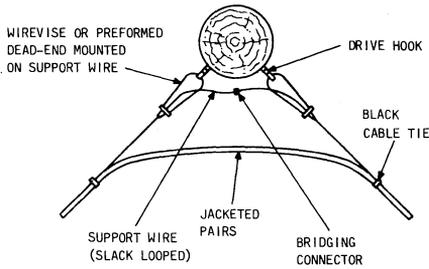

Fig. 14—Turn In Multiple ASW Run at Intermediate Pole
4.03 At installations where pole-to-pole spans are required, attach the support wire at the end pole of the run in the same manner as described in paragraph 4.02. If splicing is required, follow the instructions in Part 7. The support wire must be both electrically and mechanically continuous. To maintain continuity at areas where the support wire is not under tension, use a bridging connector (Fig. 14).
4.05 When it is necessary to make a turn in the multiple pair ASW run at an intermediate pole location, attach the drop wire as shown in Fig. 14.